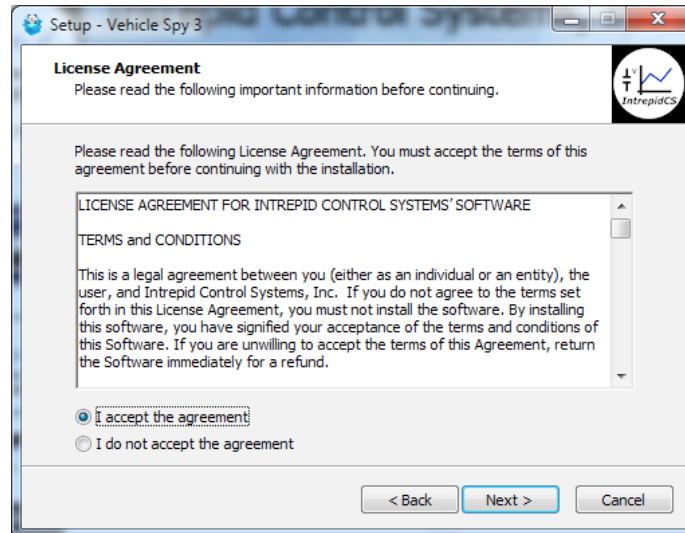

Figure 12: Vehicle Spy 3 License Agreement.
5. **Review and Accept License Agreement:** Review the license agreement, and assuming its terms are acceptable, select *I accept the agreement*, then click  (Figure 12).